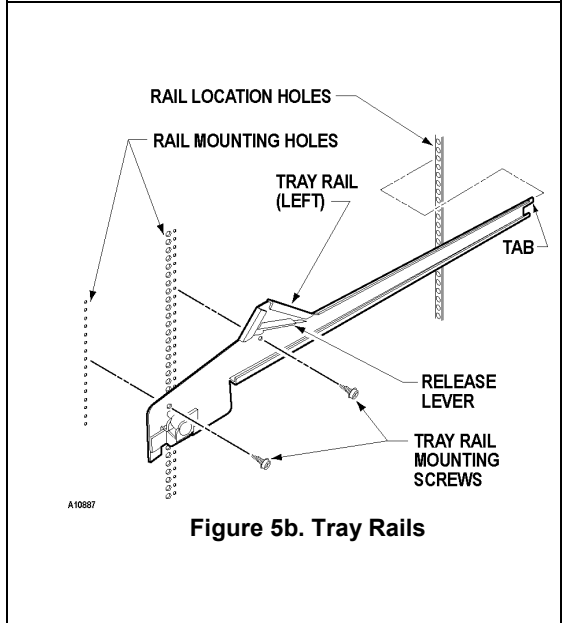

Figure 5b. Tray Rails
5. Locate the release lever on the left and right tray rails. See Figure 5b. Swing the release levers all the way up to unlatch.
9. Pull each rail forward to disengage its rear tab from the hole in the rear wall. See Figure 5b.